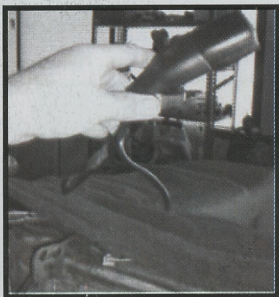

Fig.9
Step 4: (03 06 TJ/LJ ONLY)- disconnect seat belt from side of seat. Retain flat washers and wave washers. They will be reused to install seat belt to new seat base (Fig.9).